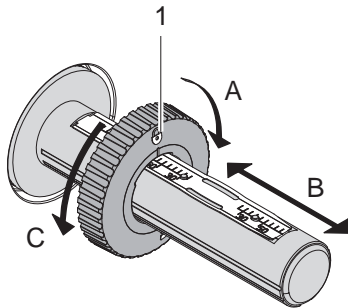

Figure 11 Guide Adjustment
3. Set guide (1) on the ribbon supply hub to the correct transfer ribbon width (Figure 11):
- Hold the hub and unlock the guide (1) by turning it in direction A.
4. Slide transfer ribbon roll (5) onto the ribbon supply hub (3) until it reaches the guide (1) so that the color coating of the ribbon faces downward when being unwound.